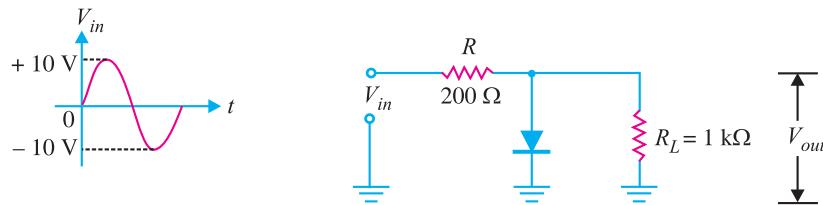

Fig. 18.31
**Example 18.10.** The positive shunt clipper shown in Fig. 18.31 has the input waveform as indicated. Determine the value of  $V_{out}$  for each of the input alternations.
**Example 18.11.** In Fig. 18.31, what is the purpose of using the series resistance  $R$ ?